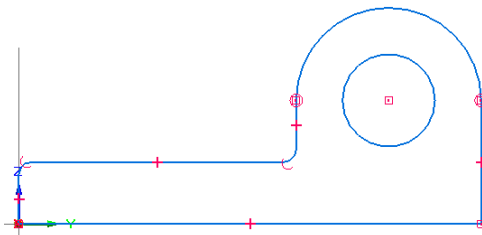

Figure 2-57 Final profile for Tutorial 3
4. Move the cursor over the center point of the arc and click to define this point as the center point of the circle when the concentric relationship handle is displayed. This completes the profile. The final profile for Tutorial 3 is shown in Figure 2-57.